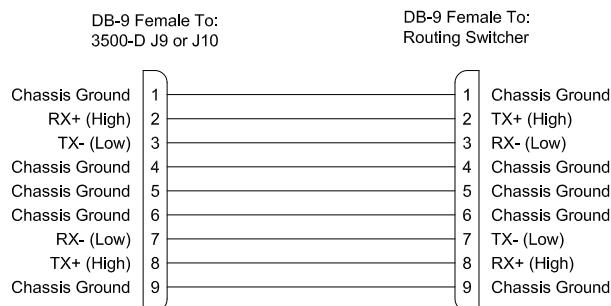

Figure 25. 3500-D RS-422 Serial Cable
- COM 3/PRC is the communications interface to a PRC type routing switcher system and is connected to a routing switcher with a serial port cable (Part No. 81-9028-0400-0) constructed as shown in Figure 25.